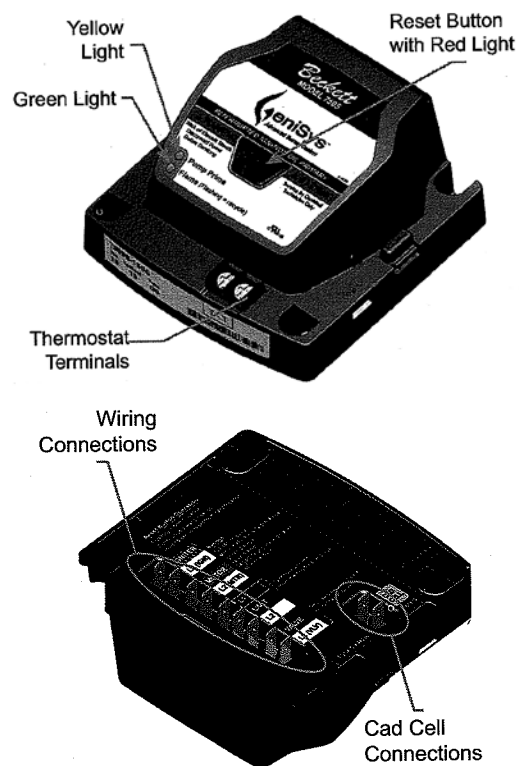

Figure 29: GeniSys 7505 Oil Primary Terminals, LED's and Reset Button
- a. GeniSys 7505 Control Features, see Figure 29.